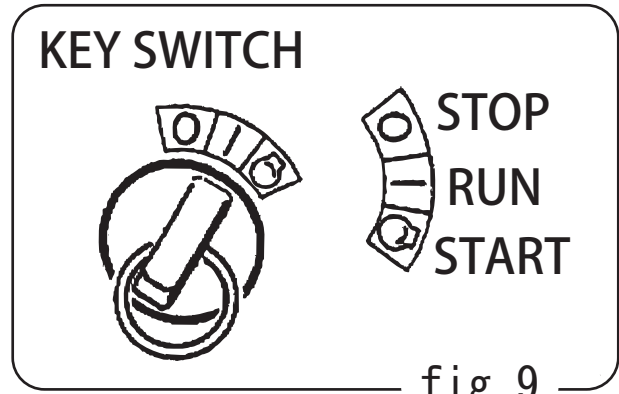

fig. 9
- c. Turn the key further clockwise to 𠄎 (Start) mark and the engine will start. (Fig.9)